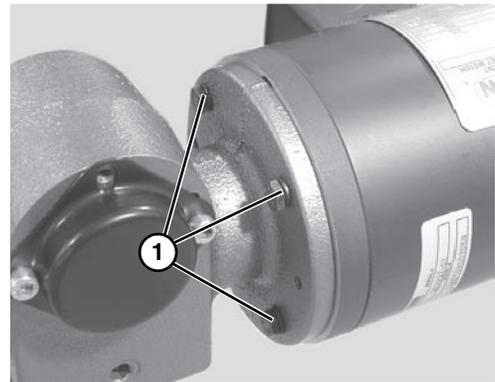

Figure 15
- Install screws (**Figure 15, item 1**) and tighten to 65 in-lbs (7.3 N-m).